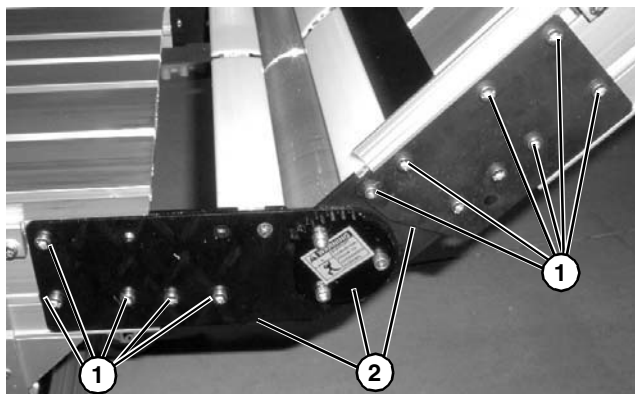

Figure 81
3. On one side of knuckle, remove screws (**Figure 81, item 1**) and knuckle plate assembly (**Figure 81, item 2**).